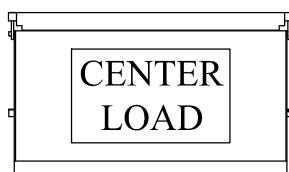

Figure 28: Step 11.
11. **To load** and use the liftgate, center the load on the platform side to side and front to back (Figure 28). Put heavier loads as close to the front of the platform as possible (near truck). Platform cart stops may be actuated at this time, if equipped.